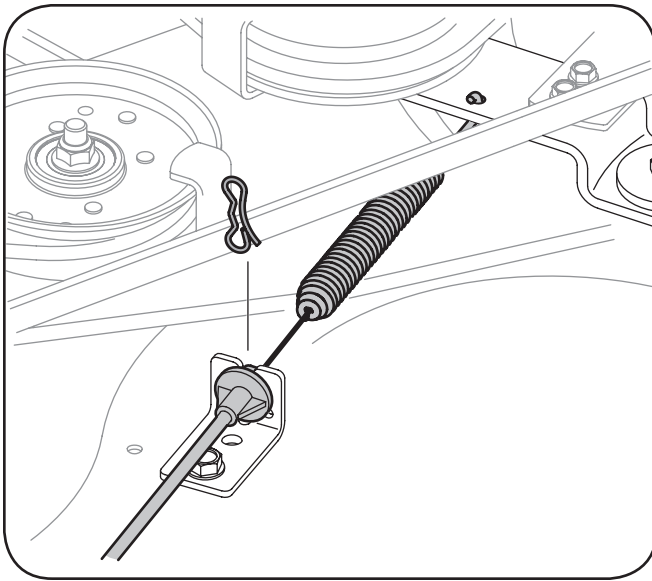

Figure 7-4
9. Carefully remove the PTO cable from the rear of the cutting deck by removing the hair pin clip which secures it. Remove the spring from the deck idler bracket. See Fig. 7-4.